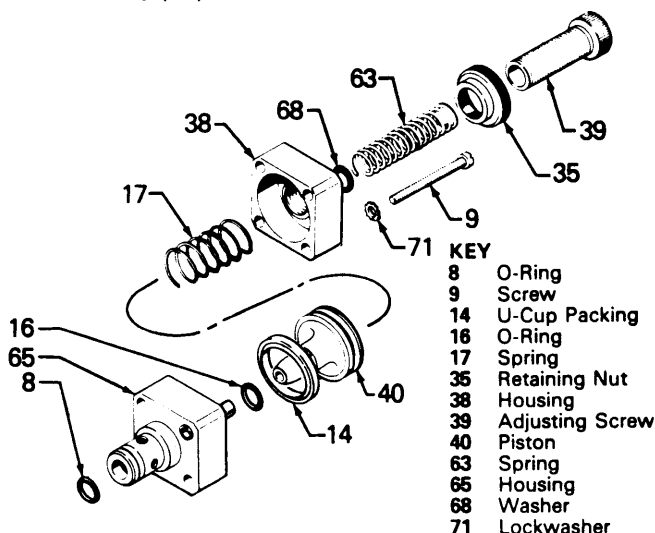

Fig 13
Servicing the Actuator (See Fig 13)
When reassembling the actuator, lightly coat all the parts with petroleum jelly. Slide the u-cup (14) onto the piston. Install the piston into the rear housing (38). Place the o-ring (16) onto the piston. Put the front and rear housing together, and push the piston into the front housing (65) using a dowel rod through the hole in the front housing. Remove the rear housing to install the spring (17). Then install the rear housing back onto the front housing. Reassemble the remaining parts as shown in Fig 13.